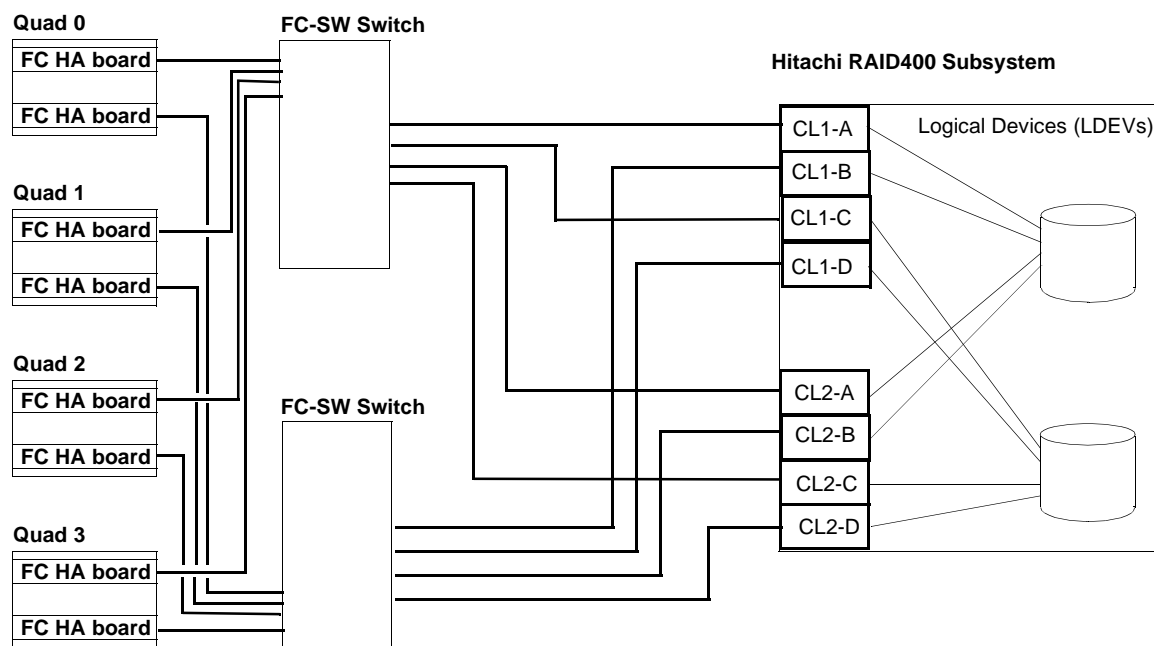

Figure 5-2.
- Figure 5-2 shows cabling for a typical switched fabric Fibre Channel connection to a IBM NUMA-Q host system.